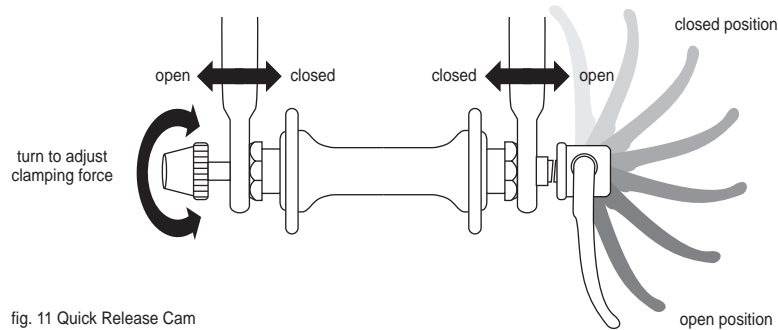
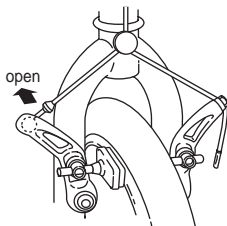

fig. 11 Quick Release Cam
fig. 16A
Invented in the 1930s to allow quick, easy wheel removal without the need for tools, the bicycle wheel quick release has become standard equipment on most recreational, sports and competition bicycles. While it looks like a long bolt with a lever on one end and a nut on the other, the wheel quick release uses a cam action to clamp the bike's wheel in place (see fig. 11). Because of its adjustable nature, it is critical that you understand how it works and how to use it properly.
## 1. Adjusting the quick release mechanism (see Fig. 11, opposite)
- (1) Open up the brake shoes (see Section 6.C.1, Figs. 16a, b, c and d).
- (2) Rotate the wheel's quick-release lever from the locked or CLOSED position to the OPEN position (Fig. 11, 12 & 13).
(3) If your front fork *does not* have a secondary retention device go to step 5.
(4) If your front fork has a *clip-on* type secondary retention device, disengage it and go to step (5). If your front fork has an *integral* secondary retention device, loosen the tension adjusting enough to allow removing the wheel; then go to step (5).
(1) Rotate the quick-release lever so that it curves away from the wheel (fig. 11 & 13). This is the OPEN position.
(3) Holding the quick-release lever in the OPEN position with your right hand, tighten the tension adjusting nut with your left hand until it is finger tight against the fork dropout (fig. 11).
(4) While pushing the wheel firmly to the top of the slots in the fork dropouts, and at the same time centering the wheel rim in the fork, rotate the quick-release lever upwards and push it into the CLOSED position (fig. 11 & 12). The lever should be parallel to the fork blade and curved toward the wheel.
- (1) Shift the rear derailleur to high gear (the smallest, outermost rear sprocket).
- (2) Open up the brake shoes (see Section 6.C.1, figs. 16A, B, C and D).
- (3) Pull the derailleur body back with your right hand.
- (4) Rotate the quick-release lever to the OPEN position (fig. 11 & 13).
- (5) Lift the rear wheel off the ground a few inches and, with the derailleur still pulled back, push the wheel forward and down until it comes out of the rear dropouts.
(3) Rotate the quick-release lever to the OPEN position (see fig. 11). The lever should be on the side of the wheel opposite the derailleur and freewheel sprockets.
(1) Open up the brake shoes (see Section 6.C.1, figs. 16A, B, C and D).
(2) With a 15mm box wrench or a six inch adjustable wrench, loosen the two axle nuts.
(3) If your front fork has a *clip-on* type secondary retention device, disengage it and go to step (4). If your front fork has an *integral* secondary retention device, loosen the axle nuts about six full turns; then go to step (4).
(4) Raise the front wheel a few inches off the ground and tap the top of the wheel with the palm of your hand to knock the wheel out of the fork ends.
(1) Open the rear brake shoes (see Section 6.C.1, figs. 16A, B, C and D).
(2) Shift the rear derailleur to high gear (the smallest rear sprocket) and pull the derailleur body back with your right hand.
(3) With a 15mm box wrench or a six-inch adjustable wrench, loosen the two axle nuts.
Most brakes have some form of quick release mechanism to allow the brake shoes to clear the tire when a wheel is removed or reinstalled. When the brake quick release is in the open position, *the brakes are inoperative*. Ask your dealer to make sure that you understand the way the brake quick release works on *your* bike (see Fig. 16A, B, C & D) and check *each time* to make sure both brakes work correctly before you get on the bike.